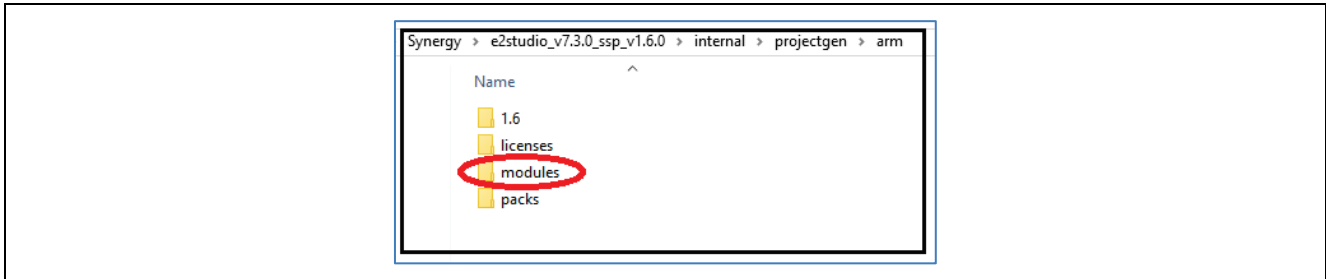

Figure 14. Modules Folder in e² studio v7.3.0 or Later
- From e² studio v7.3.0 or SSC 7.3.1 or later versions, **module_description** folder is available only at the application level. It is the **modules** (**module_description** in versions prior to e² studio 7.3.0) directory within the SSP installation directory as shown in Figure 14.